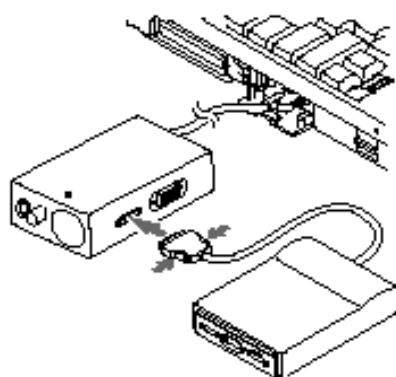

Figure 4-7 Installing an External Floppy Disk Drive
4. Align the external floppy disk drive adapter with the connector towards the MediaConnect external floppy disk drive port with the wide side of the connector up. (Figure 4-7)